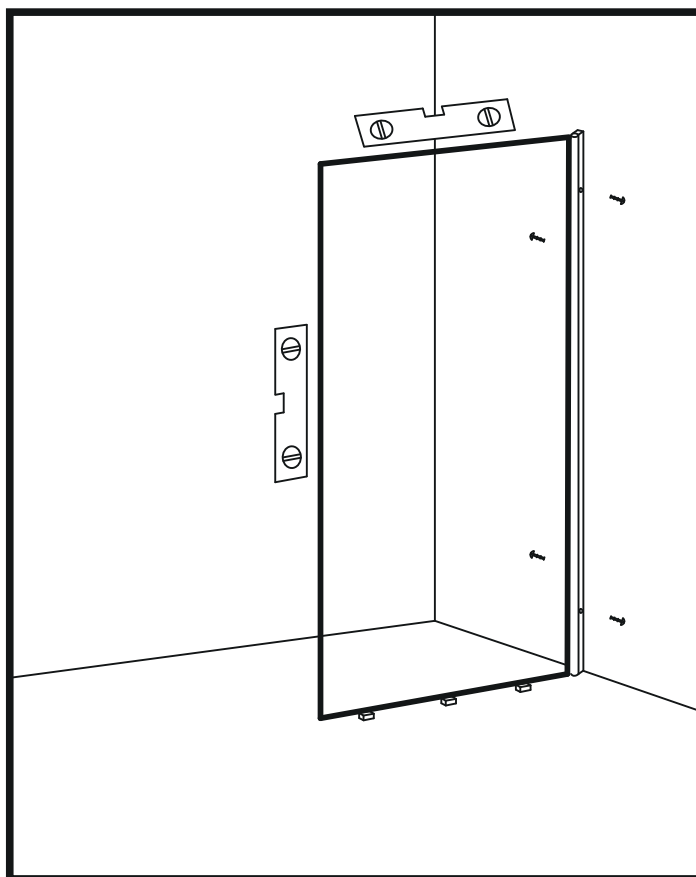

Figure 6
11. Mark the screw mounting positions on the profile from both inside and outside the shower. Measure and mark one side of the profile about 10 cm from the top and bottom, and the other side at about 20 cm. (Figure 6)